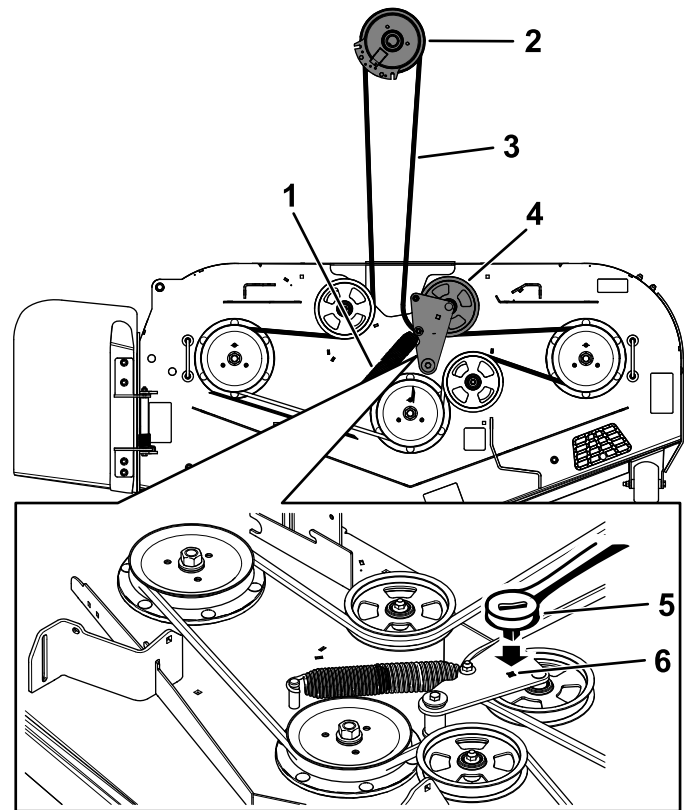

Figure 77
5. Use a 3/8-inch ratchet in the square hole in the idler arm to remove tension on the idler spring (Figure 77).
7. Remove the belt guide on the spring-loaded idler arm (Figure 77).
9. Install the new belt around the mower pulleys and the clutch pulley under the engine (Figure 77).
10. Install the belt guide on the idler arm (Figure 77).
11. Using the 3/8-inch ratchet in the square hole, install the idler spring (Figure 77).